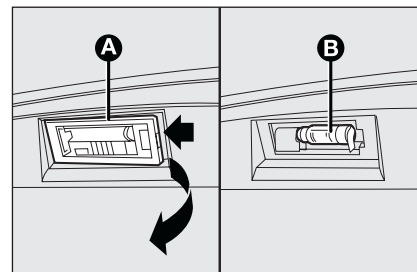

fig. 31
- ☐ work in the point shown by the arrow and remove the transparent **A**-fig. 31;